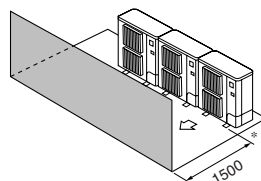

Fig. 3-13
- ③ Obstacles at front only (Fig. 3-13)